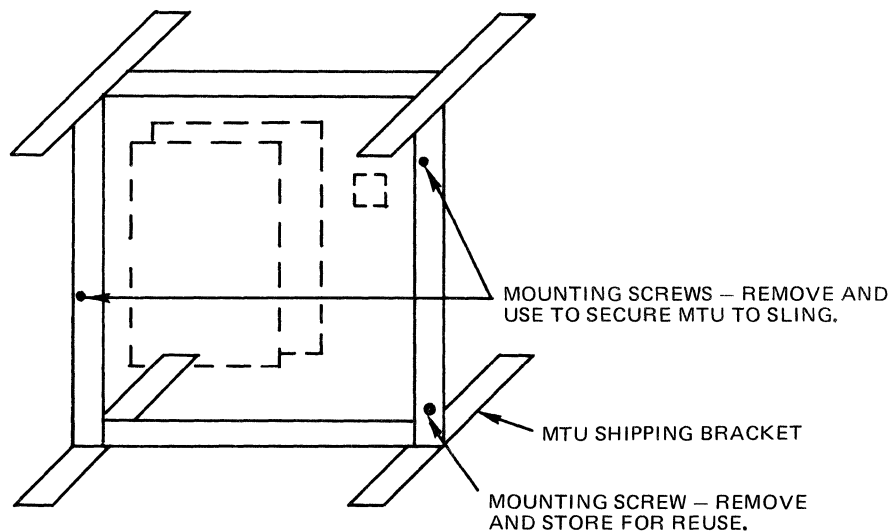

Figure 2-18. MTU Transport Assembly
1. Remove the MTU from the shipping container. Do not remove the shipping bracket from the MTU (see Figure 2-18).